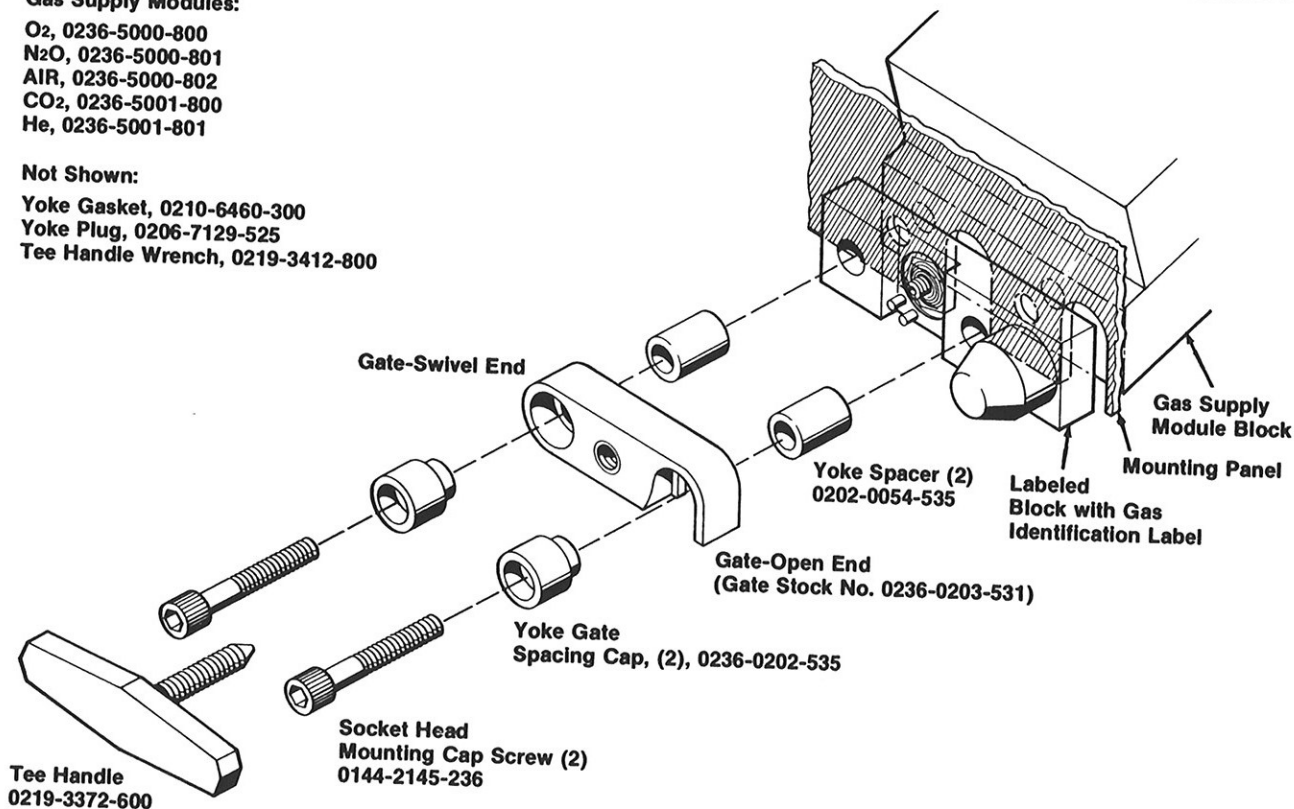

Figure 22.
4. Loosen the two recessed socket head mounting cap screws located at the swivel and open ends of the hanger yoke gate. Each screw fits through a spacing cap, the gate, a spacer, the labeled block, the mounting panel and into the Gas Supply Module block (see Figure 22).
7. To replace a Gas Supply Module, place it in position on the mounting panel and reassemble the gate assembly as shown in Figure 22. The screws and spacers at the open end of the gate must be replaced first; followed by replacement of the screws and spacers at the swivel end of the gate. Do not tighten the screws until they are both in place and the gate is closed. Minor adjustments may be required to obtain proper functioning of the gate.